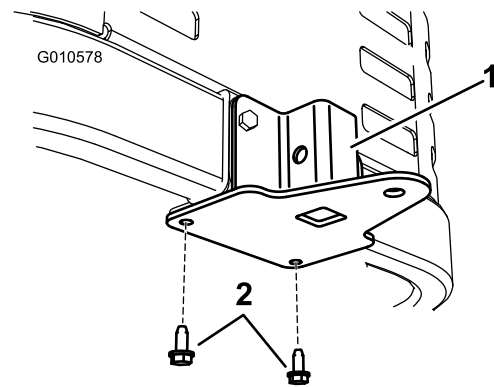

Figure 11
2. Secure the support bracket to the bottom of the machine frame from below using two self tapping screws (5/16 x 3/4 inch) as shown in Figure 11.